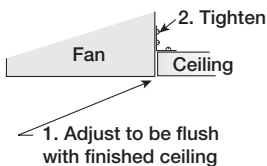

**Figure 3 — Mounting Brackets**
2. Attach adjustable mounting brackets to fan, but leave the screws loose until proper height is determined, shown in Figure 3.